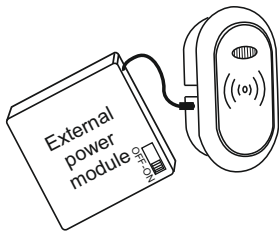

Fig.10
- a. Disconnect the power (remove one battery or use the switch on external power source, see Fig. 10);
- c. Connect the power (re-insert the battery or use the switch on external power source, see Fig. 10); continue to hold down the RESET button for 6 s until the beep and visual signal that will acknowledge that all Master keys have now been erased.
- c. Connect the power (re-insert the battery or use the switch on external power source, see Fig. 10); continue to hold down the RESET button for 16 s. The beep and visual signal will appear at 6 s and 16 s from the moment the RESET button was pressed down. The beep and visual signal at 16 s will confirm that the device is now reset to factory defaults.
If on Normal key swipe, the LED is not flashing, but the lock is still working it means that lock's batteries are almost totally discharged and need replacing. If the batteries could not be timely replaced and the lock lacks energy to open the locker, please use external power module (power the lock via the connector present on the reader) and swipe the lock with the key (see Fig. 10)